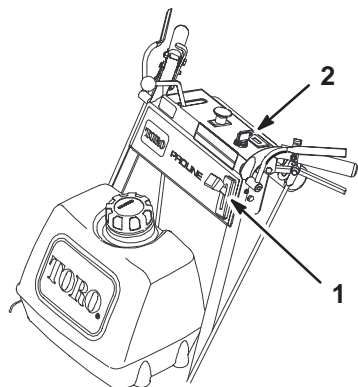

Figure 10
3. Turn the ignition key to Off (Fig. 10).